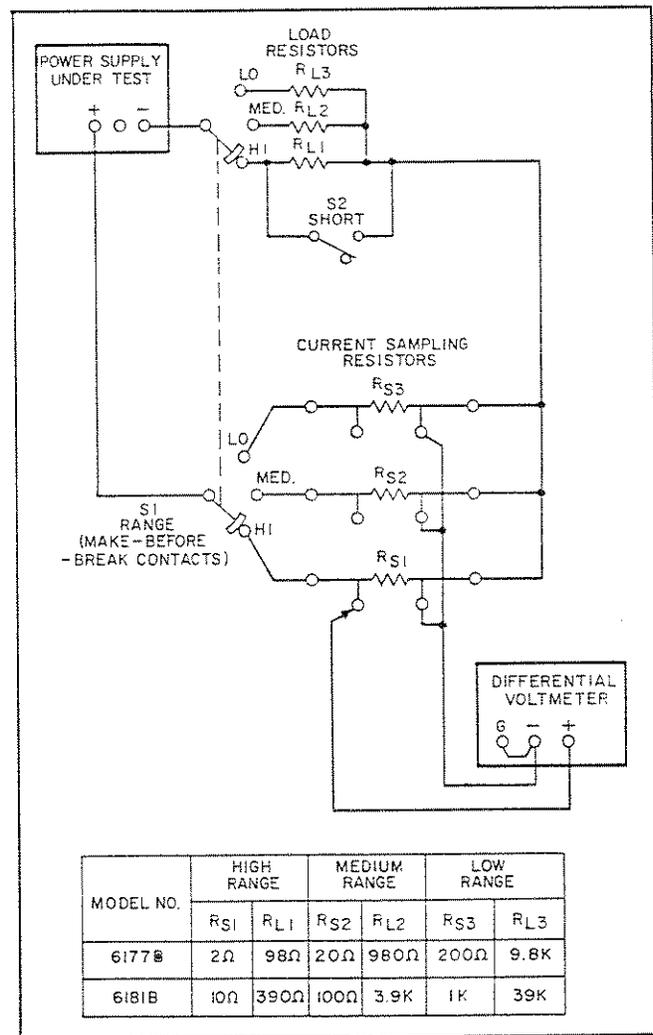

Figure 5-3. Output Current Test Setup
5-9 The monitoring device is connected across the sampling resistors as shown in Figure 5-3. As indicated in this illustration neither output terminal of the power supply is grounded and the measuring device case is connected to the junction of the load and sampling resistors. This arrangement prevents ground loop paths and shunt current paths. Notice that shunt resistance paths between the external switches and ground can exist. However, since the shunt resistance appears across only one of the external resistors and not across the entire output terminals of the supply, the performance of the supply is not degraded.
- Connect test setup shown in Figure 5-3, leaving switch S2 open throughout test.
- Connect test setup of Figure 5-3 except connect the differential voltmeter between the guard (terminal A0) and - output terminals (see Figure 3-7 for voltmeter connections).
- a. Connect test setup shown in Figure 5-3.
a. Utilize test setup shown in Figure 5-3, except connect variable auto-transformer between input power source and power input to supply. Leave switch S2 open throughout test.
a. Use test setup of Figure 5-3, except connect ac voltmeter across sampling resistors instead of differential voltmeter. Ensure that power supply output is floating to avoid ground loops.
FOR VALUES OF LOAD RESISTORS ( $R_L$  AND  $R_S$ ) SEE FIGURE 5-3 OR TABLE 5-1. FOR HIGH FREQUENCY MEASUREMENTS, LOW INDUCTANCE RESISTORS SHOULD BE USED.